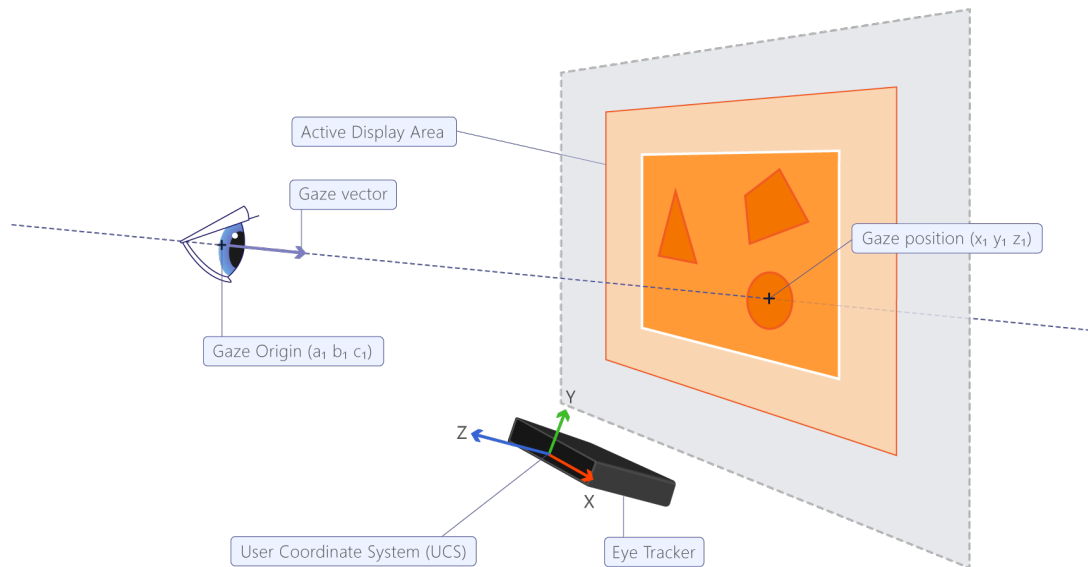

Figure 4.2: The User Coordinate System (UCS). Figure source: **Tobii**
When using **Tobii Pro SDK**, much more values are provided and can be logged to the output file. This includes the pupil diameters of each eye as well as the eye positions in space. The latter uses a coordinate system which is called *User Coordinate System (UCS)*. The UCS is illustrated in Figure 4.2.
4. 3D gaze point UCS coordinates (see Figure 4.2) in millimeters
5. gaze origin UCS coordinates (see Figure 4.2) in millimetres